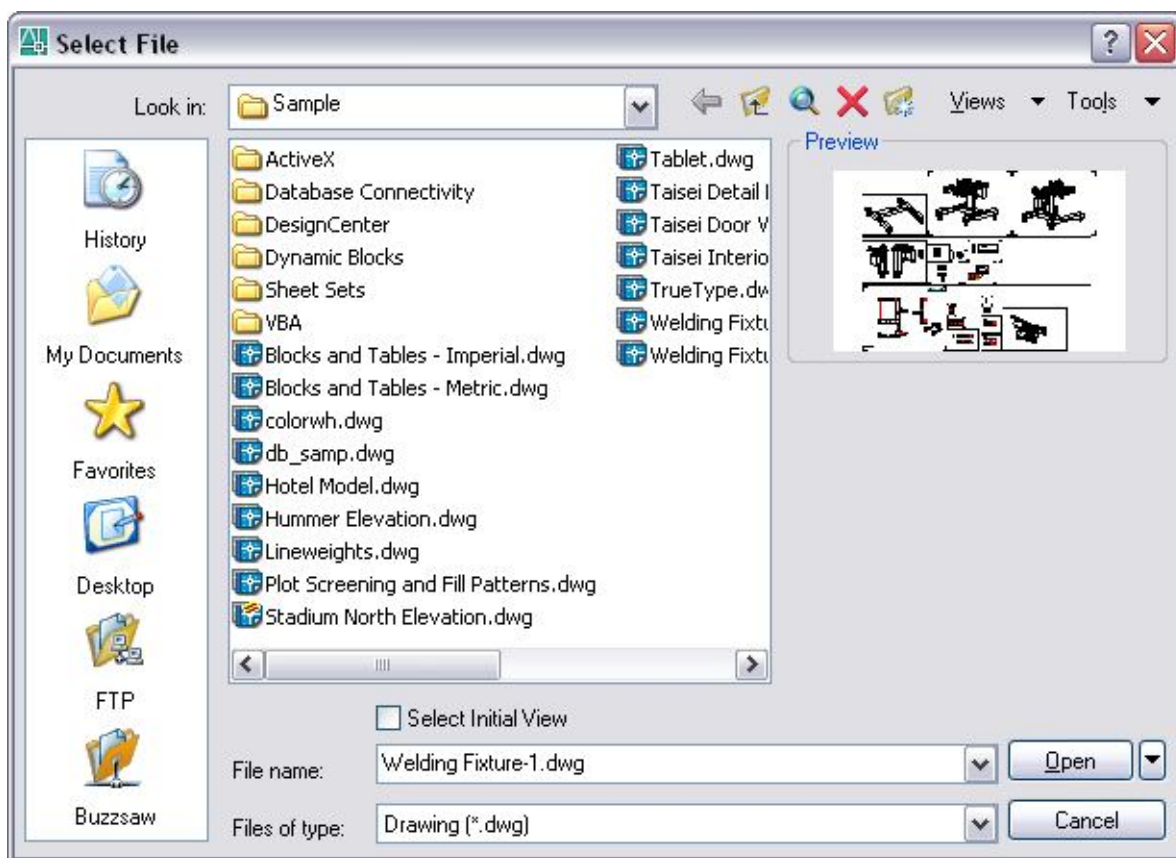

Figure 1.1 – Select file window
- **History.** Displays shortcuts to the files most recently accessed from the dialog box (fig.1.1). It is recommended that you periodically remove unwanted shortcuts from the History list. Select History, then select the unwanted shortcuts in the Files list and click Delete. To sort the shortcuts by date, click Views Details, and then click the Modified column in the Files list.